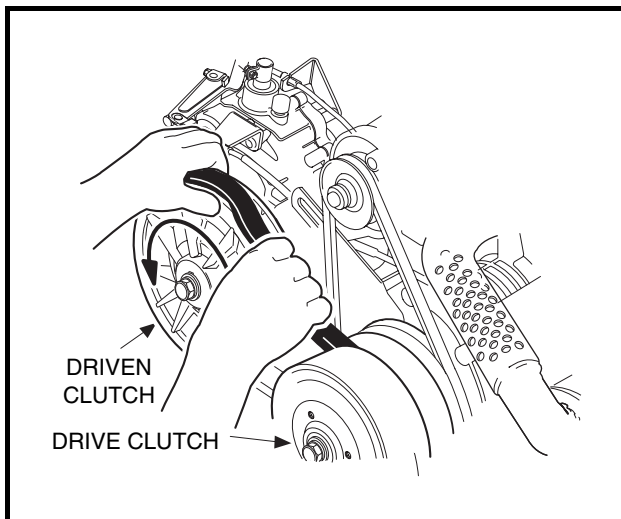

Figure 17-2 Drive Belt Removal
3. Grasp the belt midway between the drive and driven clutches. Lift upward on the belt to force the sheaves of the DRIVEN clutch apart, then roll the belt off the DRIVEN clutch by rotating the clutch counterclockwise (**Figure 17-2, Page 17-3**). **See following CAUTION.**